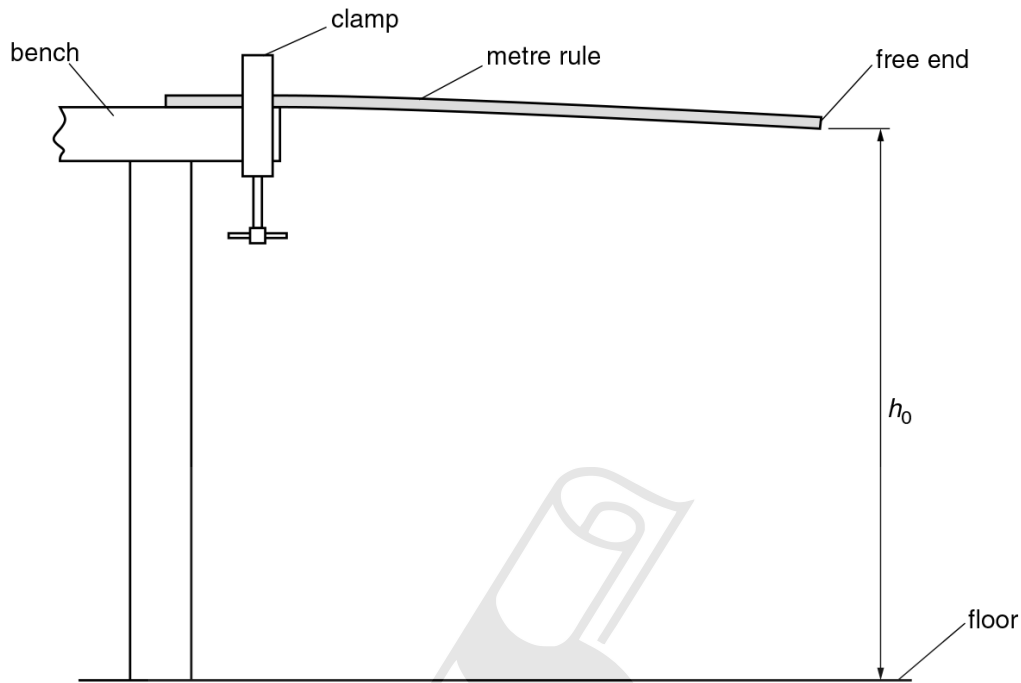

Fig. 1.1
The apparatus has been set up as shown in Fig. 1.1. The 0.0 cm mark is at the free end of the rule.
- (a) (i) On Fig. 1.1, measure h_0 .
- (ii) Fig. 1.1 is drawn to $1/10^{\text{th}}$ scale.